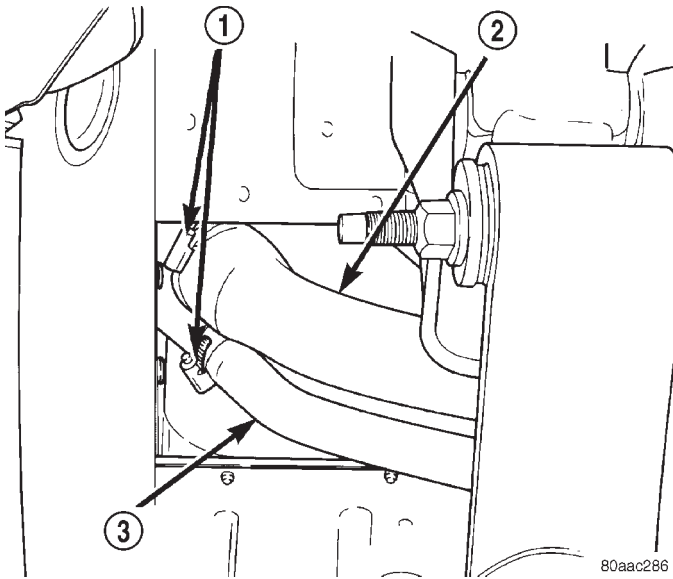

Fig. 34 Fuel Fill and Vent Hoses
- (6) Remove fuel tank fill hose and vent hose clamps at fuel tank filler tube (Fig. 34). Remove both hoses at fuel filler tube (Fig. 34).
- (7) Remove exhaust tailpipe heat shield mounting bolts and remove shield.